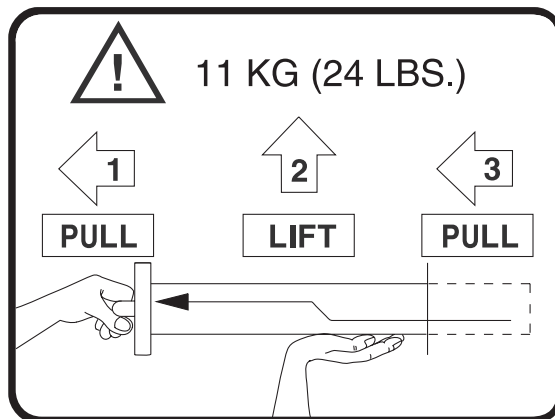

FIGURE B-4 Fan Tray Removal Label
The fan tray removal label, shown in FIGURE B-4, is located at the upper-left outside front corner of each of the four (4) fan trays.